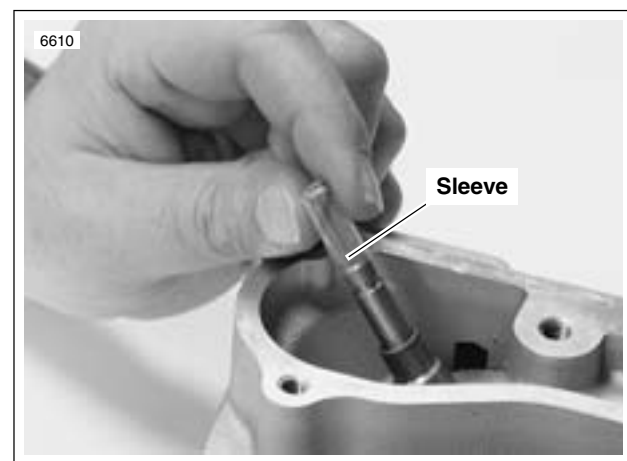

Figure 3-62. Valve Guide Seal Protector Sleeve
6. See Figure 3-62. Place a protective sleeve over the valve stem keeper groove. Coat the sleeve with oil and place a **new** seal over the valve stem.
8. See Figure 3-62. Install valve springs and upper collar.